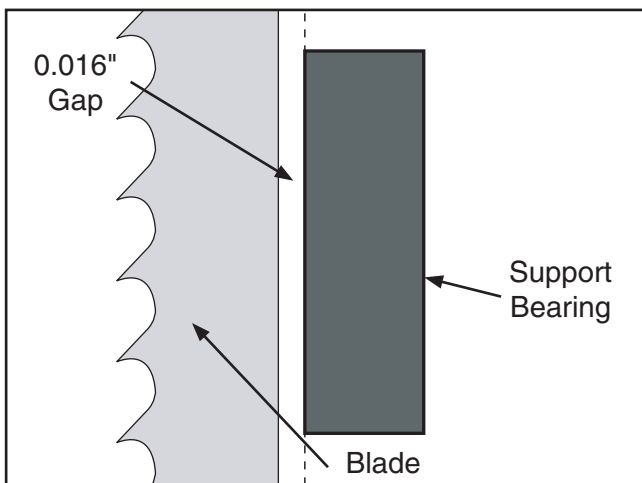
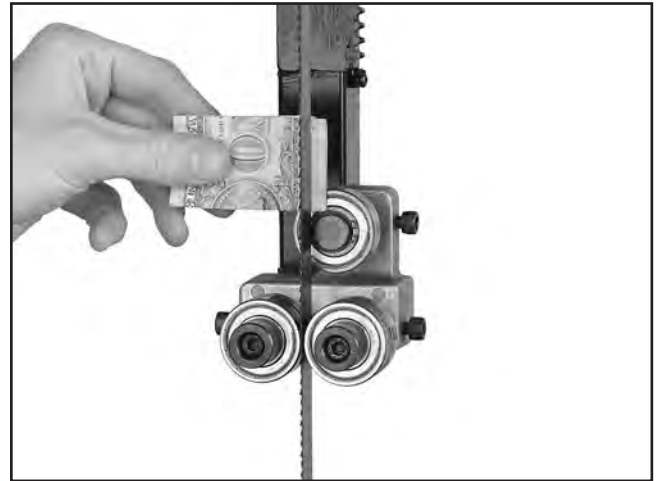

Figure 28. Blade aligned 0.016" away from the bearing edge.
Figure 29. Example of dollar bill folded twice to make an approximate 0.016" gauge.
- Using a feeler gauge between support bearing and blade, position bearing 0.016" away from back of blade, as illustrated in **Figure 28**.
Note: For a quick gauge, fold a crisp dollar bill in half twice (four thicknesses of a dollar bill is approximately 0.016") and place it between the support bearing and the blade as shown in **Figure 29**.
7. Using a feeler gauge, position bearing 0.016" away from back of blade, as illustrated in **Figure 28**, or use a dollar bill, as shown in **Figure 29**.